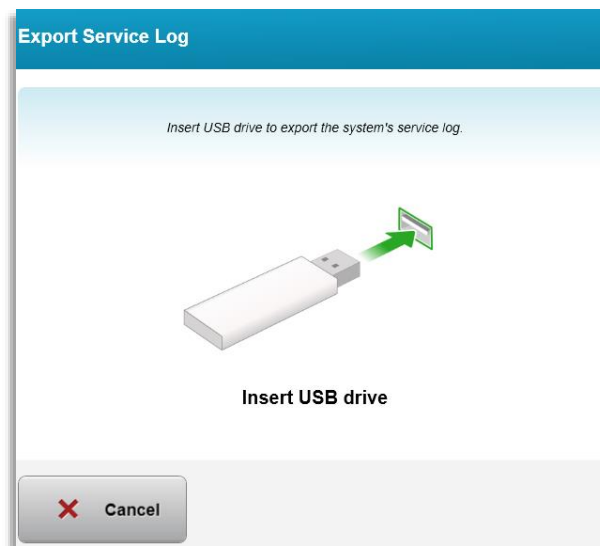

Figure 3-57. Export Service Log to USB
- o Follow onscreen instructions to insert a USB drive to the USB port as shown in Figure 3-57.